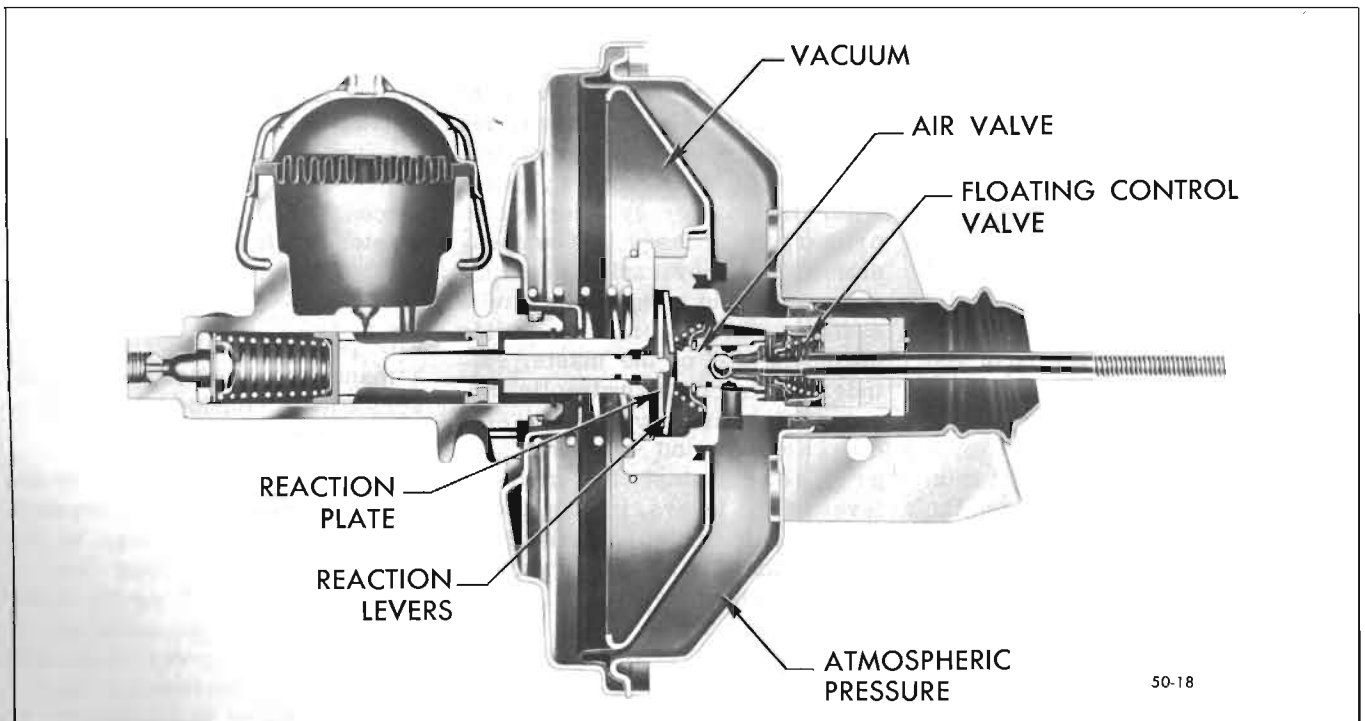

Figure 50-18—Power Brake Unit - Holding Position
3. Holding Position. When the desired pedal pressure is reached, the power piston moves to the front until the floating control valve, which is still seated on the power piston, again seats on the air valve. The power brake will now remain stationary, until either pressure is applied or released at the brake pedal. See Figure 50-18.